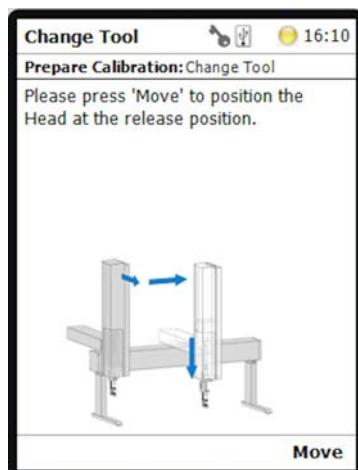

Figure 5-29. Changing the tool after Next has been clicked
11. The next wizard page is shown (see Figure 5-29):